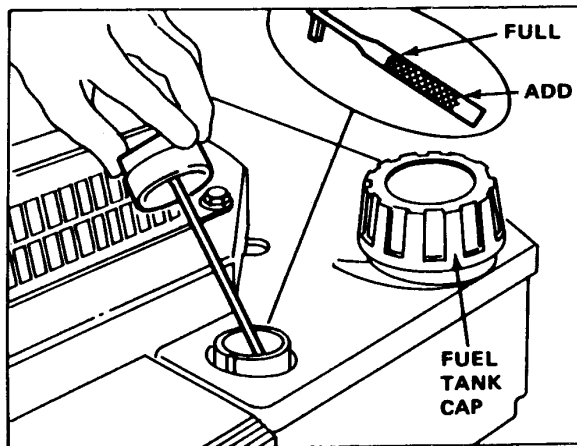

Figure 2-5
6. Check the dipstick to make sure the oil level is between the full and add mark. See Fig. 2-5.